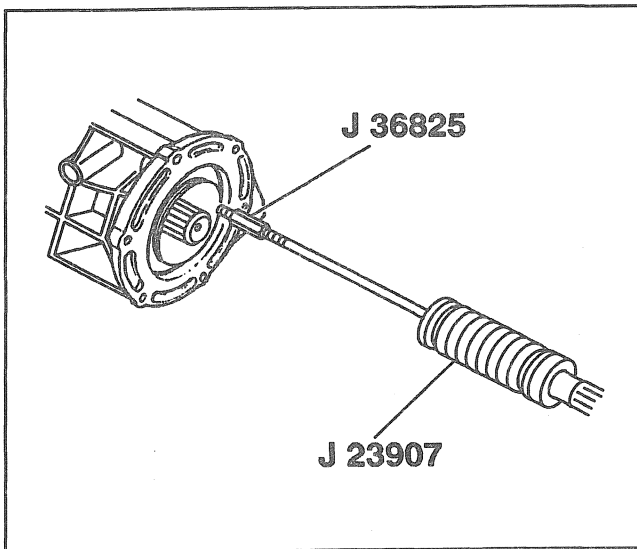

Figure 7—Extension Oil Seal Removal (4WD Models)
Remove or Disconnect (Figure 7)
3. Extension oil seal, using J 23907 and J 36825 (Figure 7).